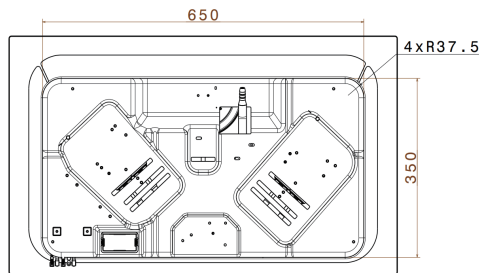

Fig. 7 (in mm)
- Cut the opening in the bench top by the cardboard -template given in the hob packing or to the dimensions shown in Fig 7.
- Install the hob in the cut-out. (Fig 7)